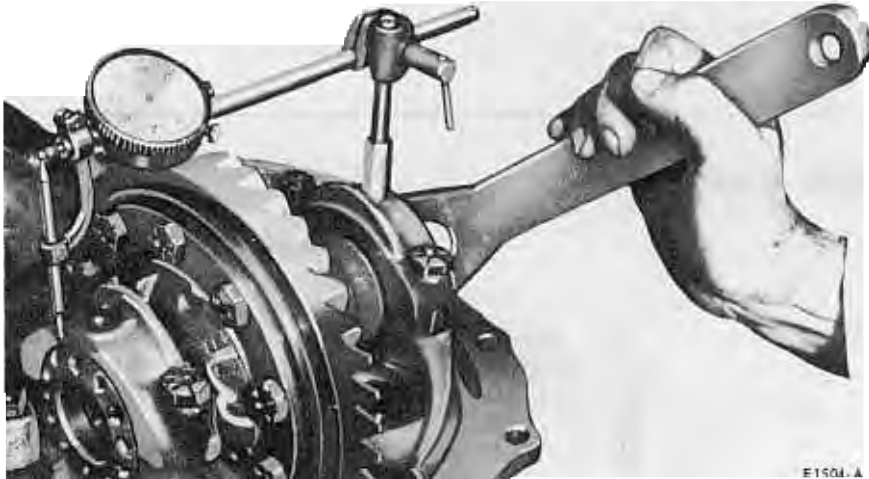

FIG. 13—Adjusting Side Bearing Preload
To secure a more uniform control of differential side bearing preload in service repairs, a dial indicator set-up such as shown in Fig. 13 is used.
4. Install a dial indicator as shown in Fig. 13.